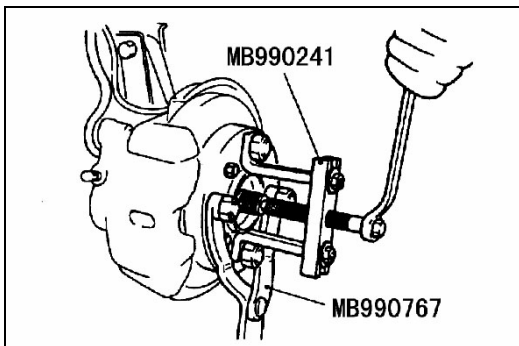

Fig.12-22
(3) Drive shaft removal
- a. Use the special tools to push out the drive shaft from the hub(see Fig.12-22)。